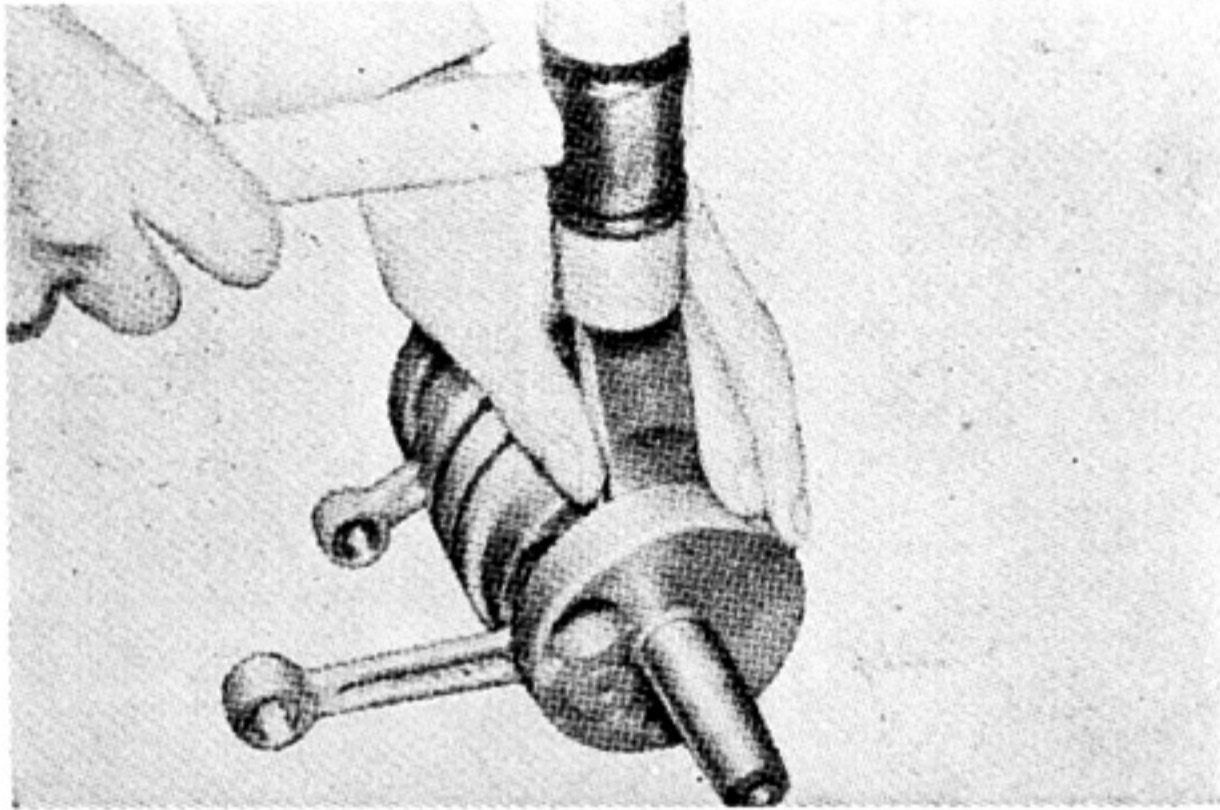

Fig. 3-16-20
- b. Drive a wedge into the gap between the crank webs by using a brass hammer, and correct crank web runout. (Figs. 3-16-20 and 21)